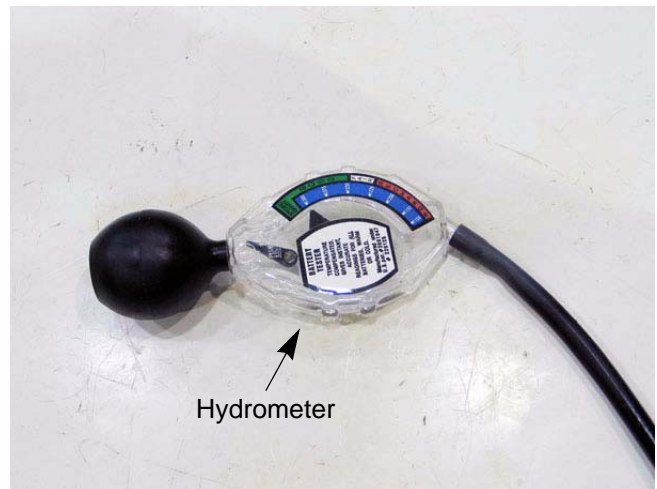

Figure 7.49
3. Hydrometer test (non-sealed batteries only) See Figure 7.49.